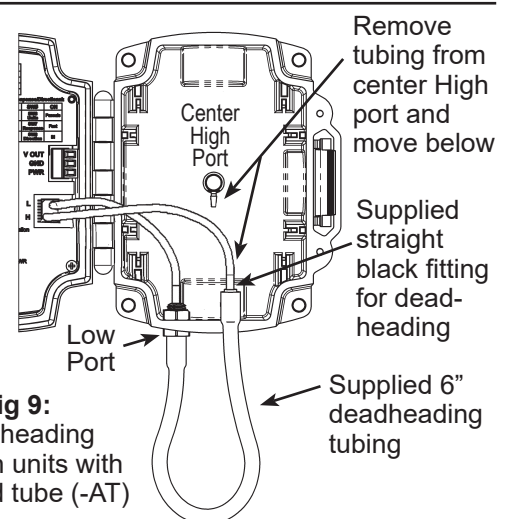

Fig. 9: Deadheading ports on units with attached tube (-AT)
AUTO-ZERO FOR UNITS W/ ATTACHED TUBE (See Fig. 9)
3. Disconnect the clear internal tubing from the Center High Port fitting with your fingers (Fig. 9). A pliers may cut the tubing.
4. Connect the clear internal tubing to the supplied straight black fitting, and connect the 6" deadhead tubing to the other side of the fitting (Fig. 9).